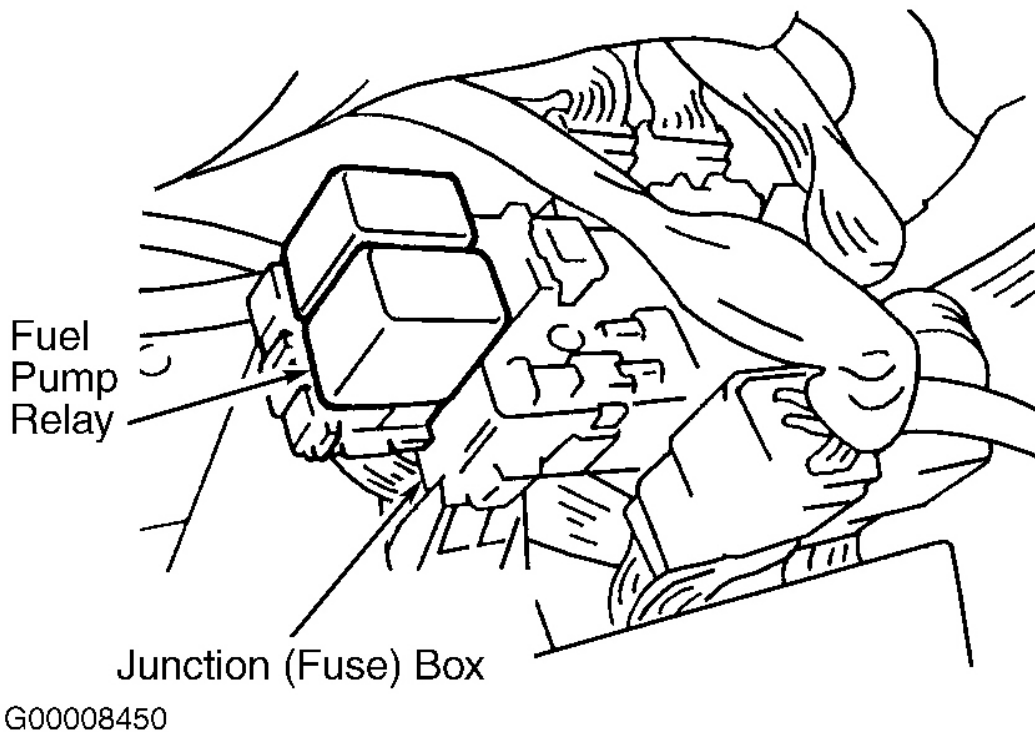

Fig. 4: Locating Fuel Pump Relay (Vitara)
4. On Vitara, remove fuel pump relay connector (relay with Pink wire). Fuel pump relay is located under driver's side of dash, near main relay. See **Fig. 4**.